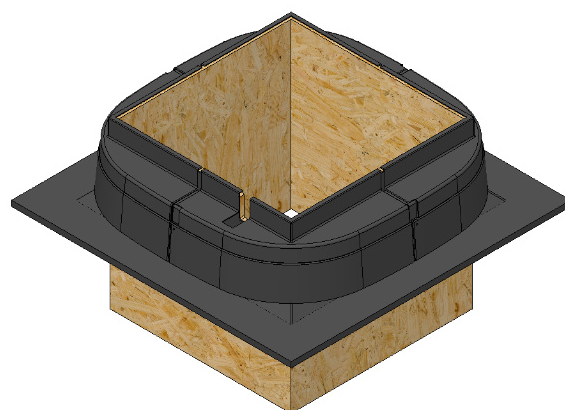

Figure 24 – Skirt extension in final position.
2. Top rim of skirt should rest on the top edge of roof upstand - *see figures 24 & 25.*